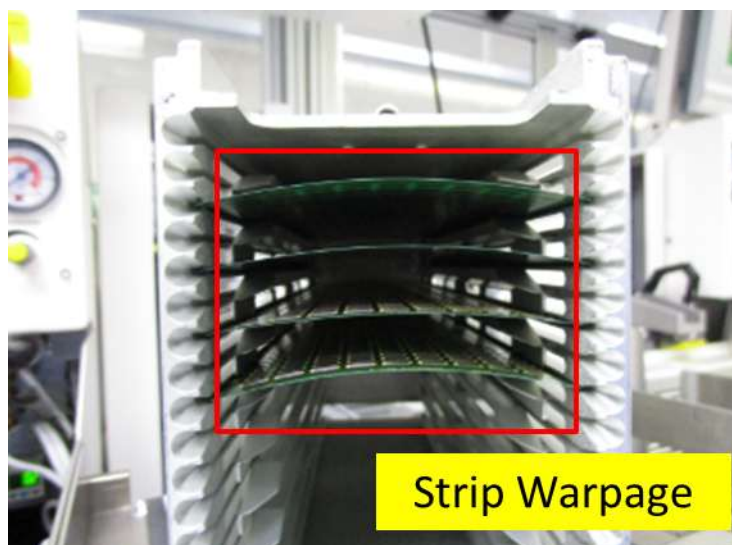

Fig. 2. Excessive strip warpage observed after die attach cure.
- Excessive strip warpage was encountered after the die attach cure process as shown in Fig. 2.